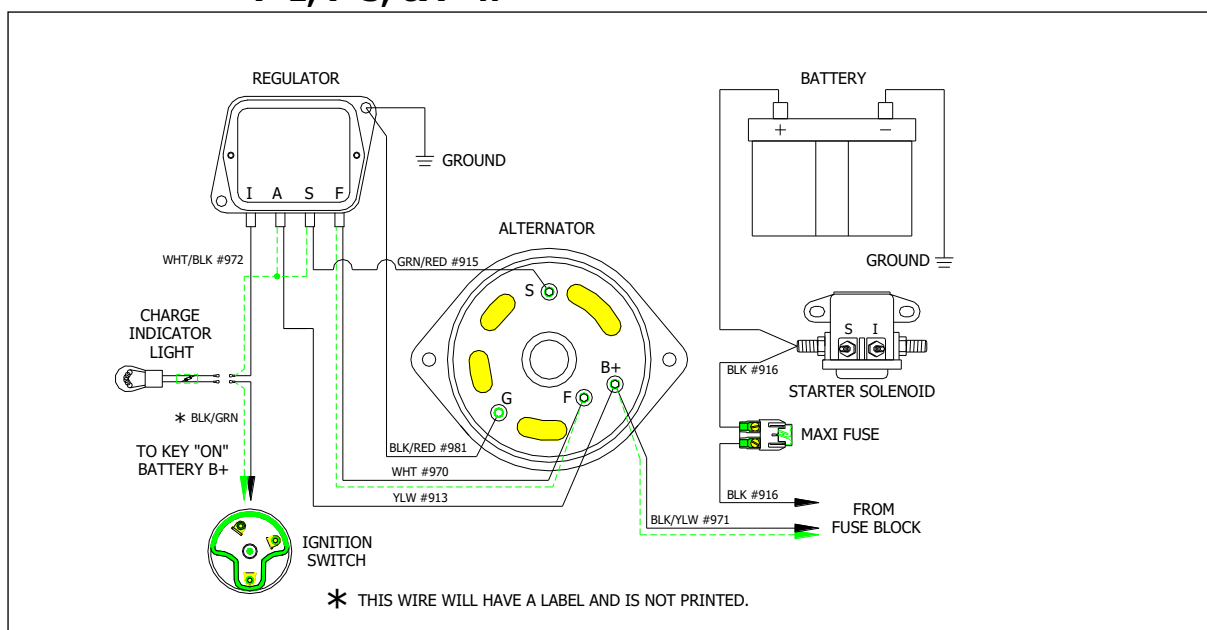

Figure 7-1 Alternator/Regulator/Solenoid Connections
7.1 Alternator/Regulator/Solenoid See Figure 7-1.
- 7.1.6** Connect HEADLIGHT SECTION wire #916 to one side of Maxi Fuse Base. Using the remaining portion of wire #916 connect the other side of the Maxi Fuse Base to the Battery side of the starter solenoid. **See Figures 7-1, 7-3, & 7-4.**